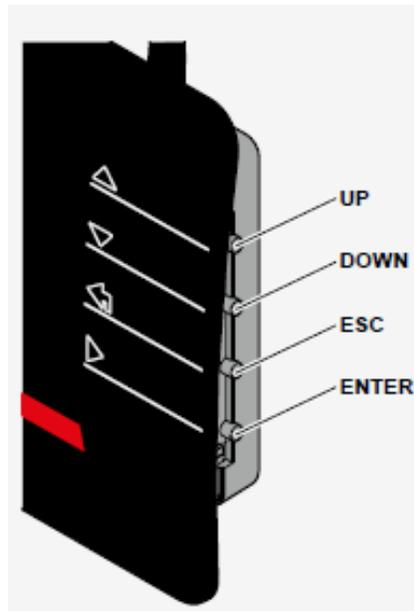

Figure 3-1 Right side of CDD unit showing ESC key, 3rd from top
1. Enter the IP address of the CDD in the URL address bar of an internet browser (e.g. Internet Explorer, Chrome, Firefox, Safari). The IP address can be viewed on the CDD screen by pressing the ESC button on the right side of the CDD (Figure 3-1).